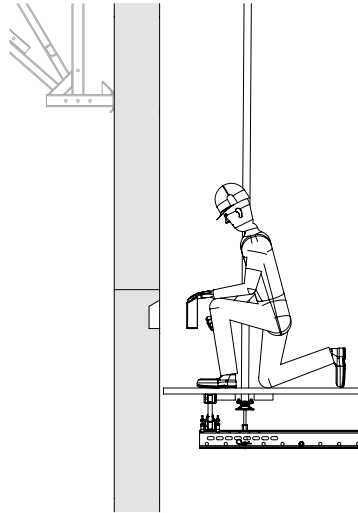

Fig. C5.01
1. Remove the support, Bearing Box or Folding Bracket, from the previous concreting section. (Fig. C5.01)